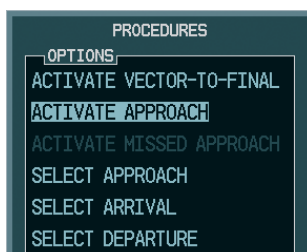

Figure 5-139 Manually Activate Approach
- Turn the large **FMS** Knob to highlight 'ACTIVATE APPROACH' as shown in Figure 5-139.